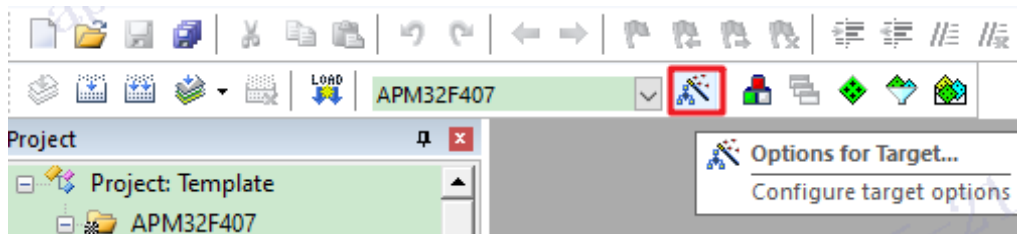

Figure5
- a) As shown in Figure 5, open the project file and select "Options for Target" tab.